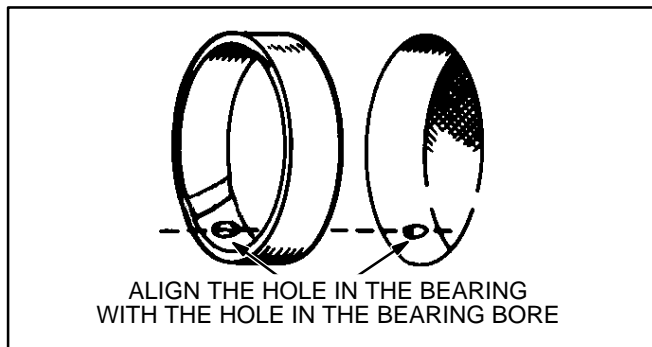

FIGURE 91. FRONT CAMSHAFT BEARING
2. Press the front bearing in so that the oil hole in the bearing lines up with the oil hole in the bore (Figure 91).